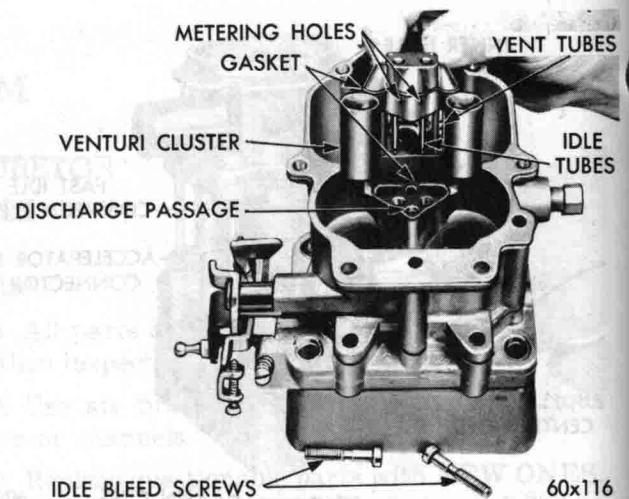

Fig. 9—Removing or Installing Venturi Cluster
(10) Remove the venturi cluster idle bleed screws, then lift the venturi cluster and gaskets up and away from main body, as shown in Figure 9. Discard the gaskets. **Do not remove the idle orifice tubes or main vent tubes from the cluster.** They can be cleaned in a solvent and dried with compressed air.
(12) Install new gaskets on venturi cluster, then install in position in the main body. (Fig. 9). Install the idle bleed screws and tighten securely.